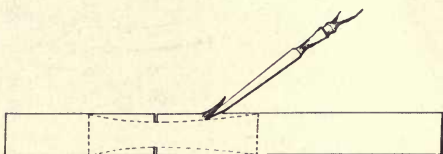

FIG. 64.—CUTTING CURVES IN HAMMER HANDLE.
10. **Cutting curves.** — In cutting the curves, first saw down to the curves at the deepest point of the curve and chisel down from each end towards the saw cut, as illustrated in Fig. 64. Repeat this on all sides, chiseling as close to the line as possible without cutting it; then chisel down the head to the lines marked on the end.